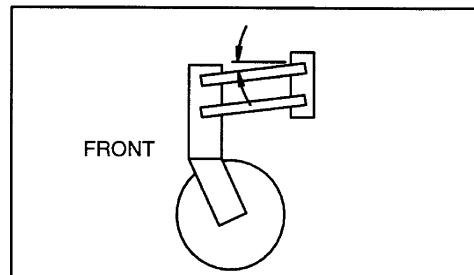

Figure 21 Stabilizer Strut
2. Adjust up and down so the parallel linkage is low in the front in operating position. See Figure 21. This allows maximum upward travel when operating. Pin #10 limits the downward travel of the wheel for road transport. This may be left installed when operating.